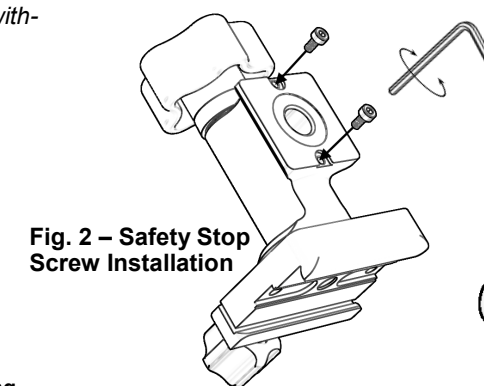

Fig. 2 – Safety Stop Screw Installation
**Step 1: Install the safety stop screw** See Fig. 2. (Also see clamp compatibility warnings in included safety stop screw kit)